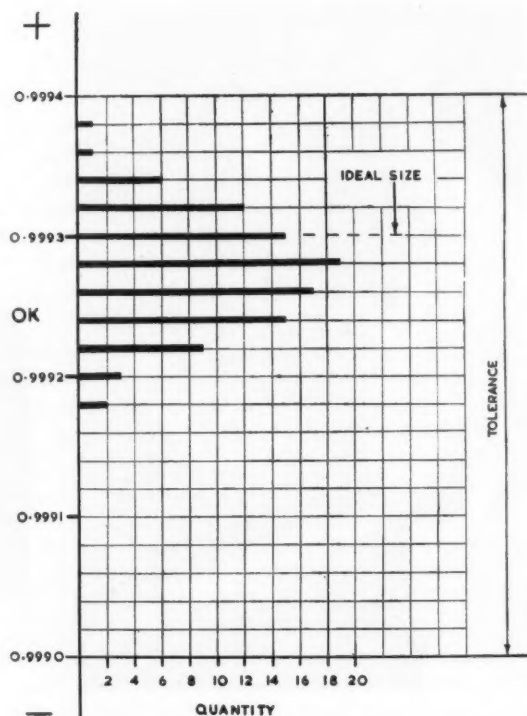

Fig. 16. Copy of record from automatic recording equipment showing size distribution on 100 parts produced consecutively.
These results are not exceptional, but follow naturally from the application of simple scientific principles to a production problem. The attainment of tolerances of 0.0004 in. (400 millionths of an inch) on the basis of producing 80% of the parts to half this tolerance, and under normal production conditions making no scrap is, therefore, easily attainable. The grinding gauge, automatic controller and an automatic recorder used in a comprehensive test in the author's laboratory are illustrated in Fig. 14. Fig. 15 is a reproduction of the automatic record produced during the grinding of twenty consecutive parts. One division on the scale represents 0.0001 in. The degree of variation in the group of 20 parts is within 0.0001 in. and the floor-to-floor time cycle for this operation was 1.2 minutes. The diagram, Fig. 16, is a record produced automatically showing the size distribution on a group of 100 parts.
1. inspect a large sample of parts by manual, semi-automatic, or fully automatic means and obtain a size distribution diagram of the type shown in Fig. 16, and at the same time segregate those parts whose size appears to be within 10% of the tolerance boundaries;